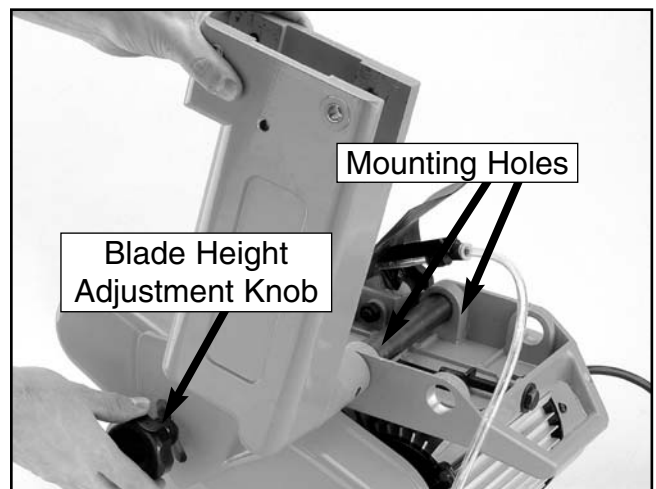

**Figure 7.** Installing the water reservoir.
4. Slide the plastic water reservoir into one end of the saw frame as shown in **Figure 7**. Be sure the reservoir is not protruding from either end of the frame.